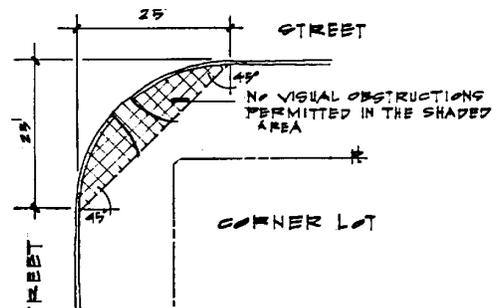

Figure 3
An area of open space is required at all corner lots where intersections occur. These intersections shall be unobstructed to permit pedestrian and vehicular view when near an intersection. No trees or other potentially opaque landscaping is permitted in this area. This shall be twenty-five (25) feet in distance from each street at the corner. (Figure 3)